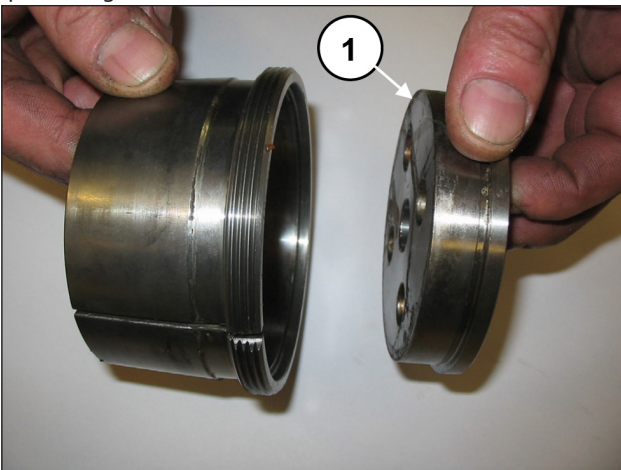

Fig. 23
Unscrew the screws of the two bearing support covers (pos. ①, Fig. 23).